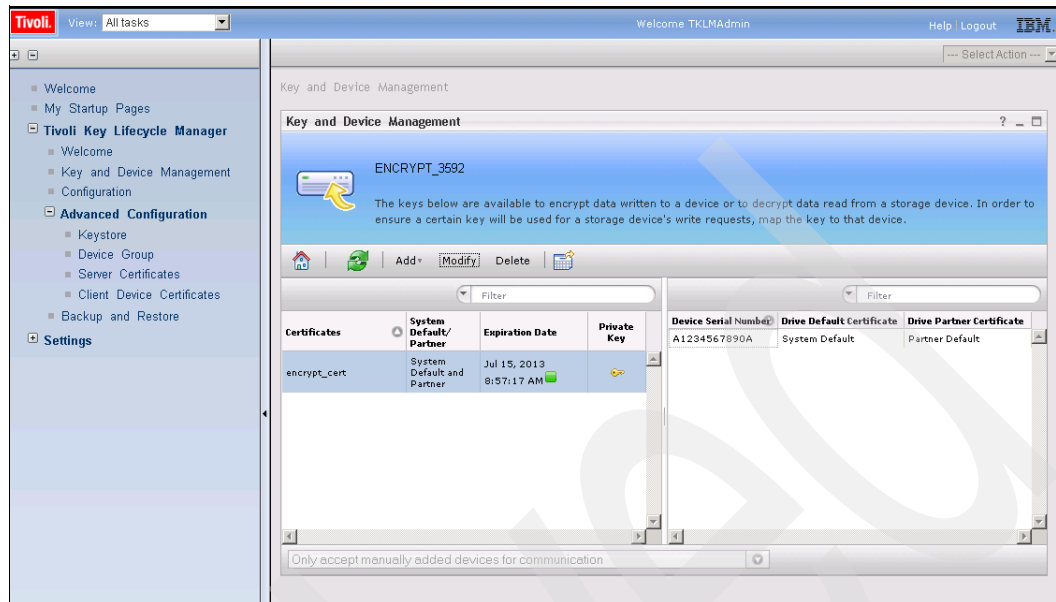

Figure 9-60 Key and device management with certificate highlighted
3. Highlight the 3592 certificate and click **Modify** (Figure 9-60).